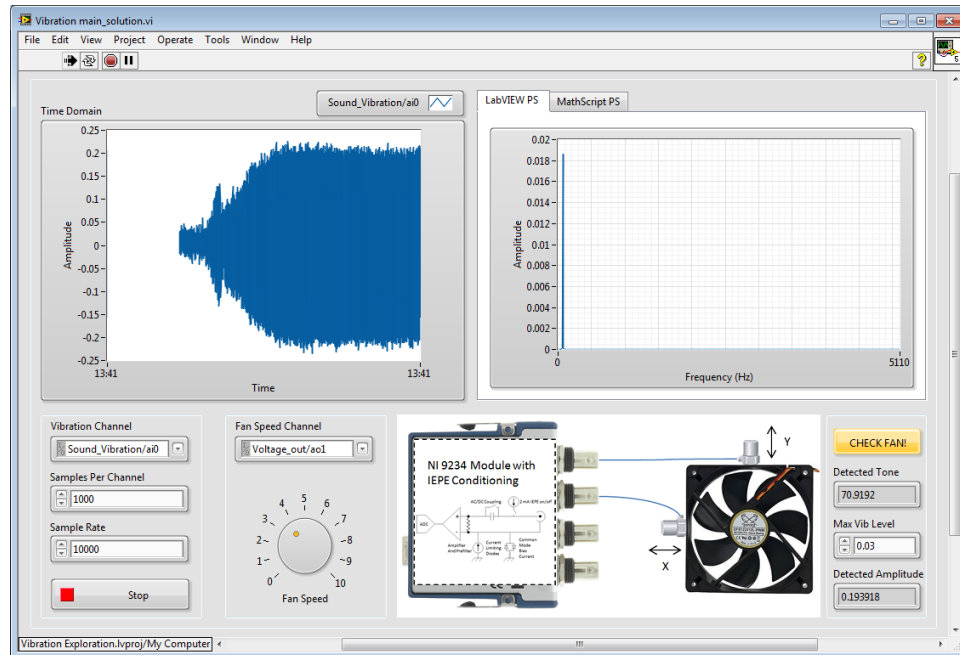

Figure 6. This VI will acquire a time-domain vibration signal and calculate the frequency content using both LabVIEW VIs and MathScript.
- Through the rest of this exercise you will build the VI in Figure 6. Ensure that the switch on the Sound and Vibration Signal Simulator is flipped to BNC. Press the run button.